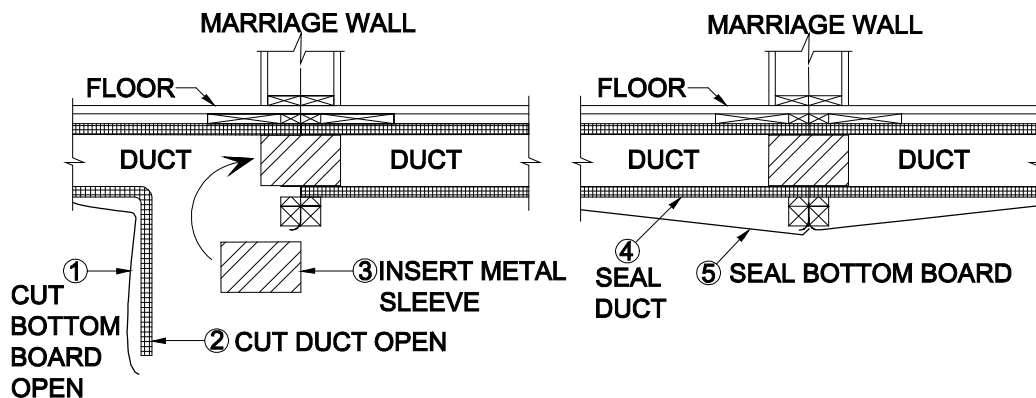

Figure 36. In-floor duct with crossover using metal sleeve
Join duct board ducts with a metal sleeve as follows (**Figure 36**):
2. **Open duct.** Create an opening in the duct by cutting the duct board as shown in **Figure 36**.